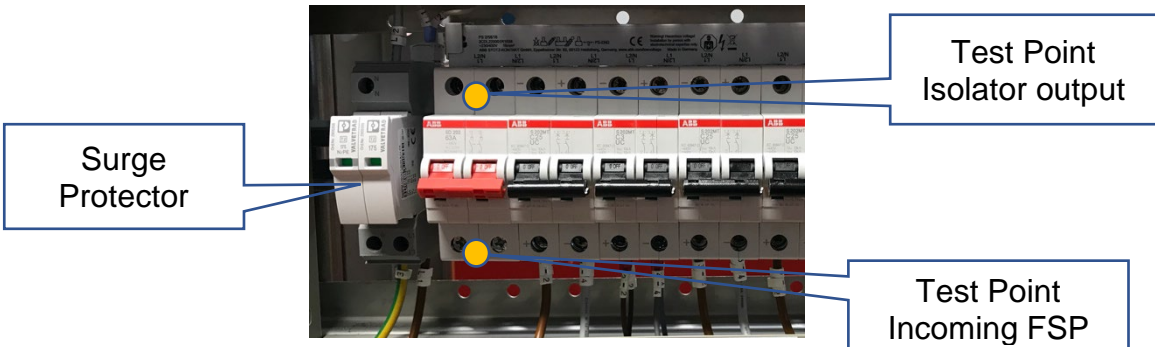

Figure 5 - Incoming supply isolation test point 110VAC and 120V DC
5.2 If failure of an incoming supply is indicated, the supply shall be checked by measurement of the voltage at the input to the supply isolation switch as shown here in Figure 5.